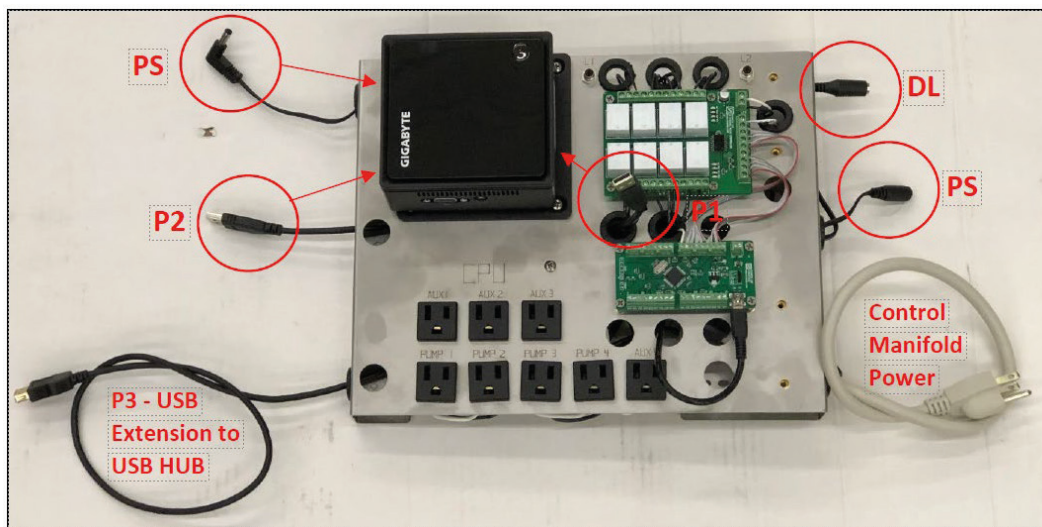

Fig. 20
1. Plug three-prong 120V power supply from control manifold into power strip (Fig. 20) located in component compartment.
6. Connect CPU power supply (PS) to CPU. This cable is located on the top left-hand side of control manifold.
7. Plug other end of power cable for CPU (PS) into power adapter (PA1). Power cable for CPU is located in the middle of right-hand side of control manifold.